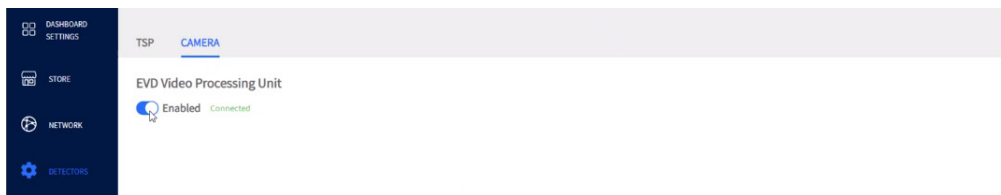

Fig. 7.2
5. Select DETECTORS from the sidebar menu, and then select CAMERA tab to open the CAMERA page. Toggle the Enable switch to connect to the Video Processing Unit. Click the Save button to save your change. See Fig. 7.2.
**NOTE:** A drive off is a lane event, so this feature is only applicable when the camera is used in a drive-thru lane environment (i.e., not for a Pull-Forward/Mobile settings). The Video Processing Unit must be Enabled to configure these settings, see Fig. 7.2